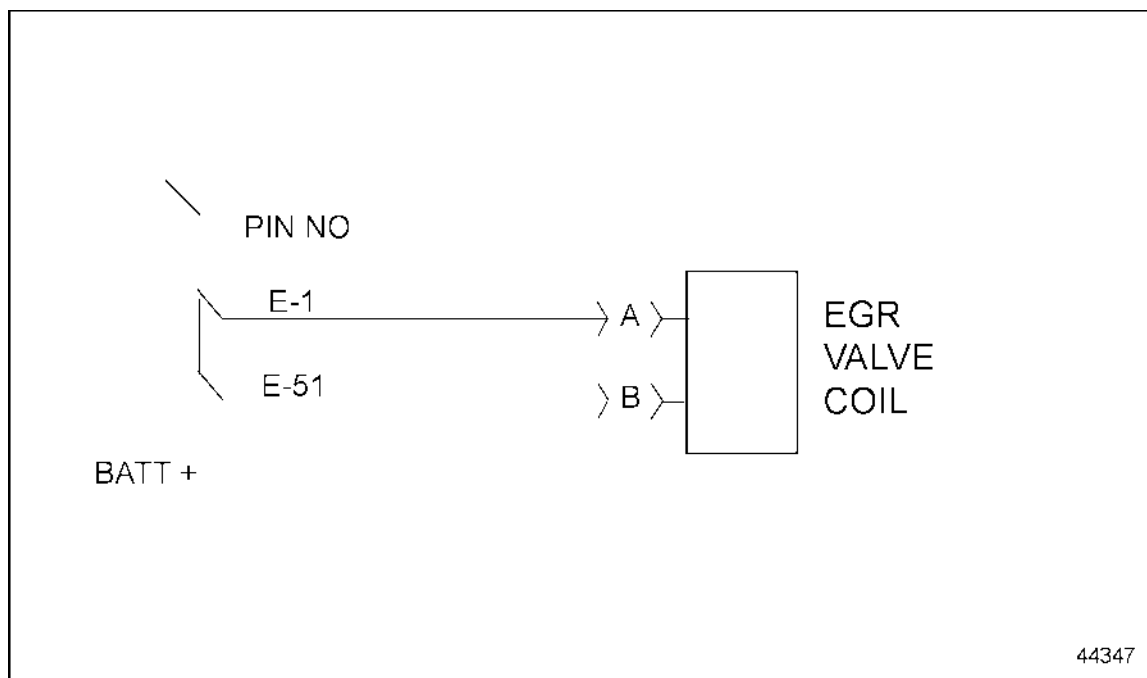

Figure 9-1 EGR Valve Coil Wiring
3. Measure the coil resistance between pins A and B. Table 9-2 and see Figure 9-1.